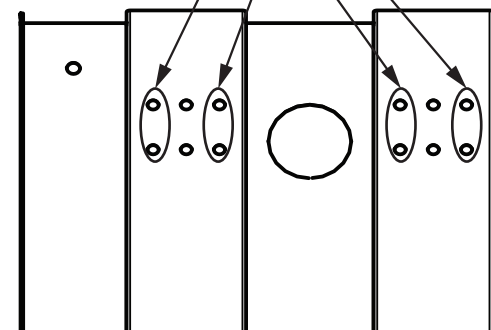

Figure 11: Attach the kiosk to the base plate
2. Secure the Kiosk onto the base plate using the 8 of the 12 base plate bolts in the holes shown in Figure 11.